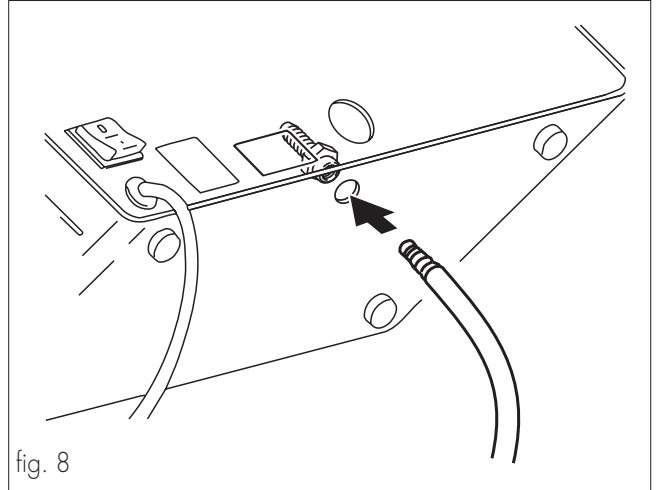

fig. 8
- Insert the water aspiration tube in the special connection under the dispenser (fig. 8).